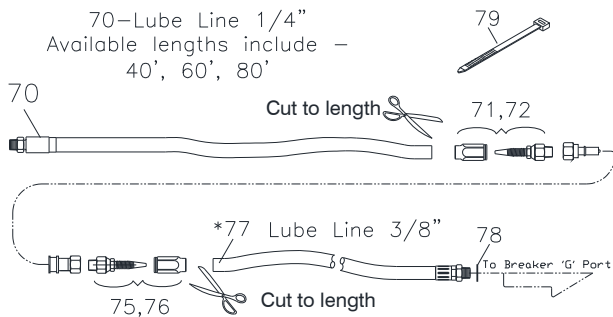

Fig. 6-3 Cut-to-Length and Assemble Lube Lines
3. Measure, cut and assemble connectors to lube lines according to figure 6-3. Quick disconnect couplers are provided for easy connection and removal of the breaker.
4. Measure, cut and assemble connectors to lube lines according to figure 6-3. Quick disconnect couplers are provided for easy connection and removal of the breaker.